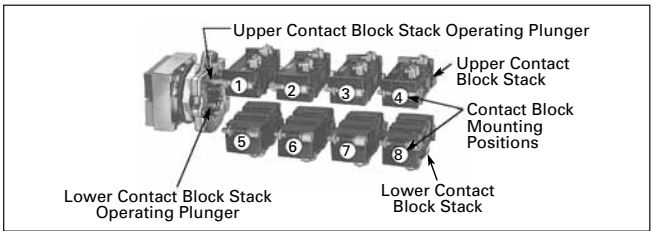

Figure 47-83. Mounting Positions
**Figure 47-83** and **Table 47-161** give the contact block mounting limitations for Type E30 pushbutton and combination pushbutton and light operators. Mounting positions 1 thru 8 indicate single depth contact blocks. Each of these positions can represent either a single circuit 600 volt block or a 2-circuit 120 volt block. The 2-circuit 600 volt block requires two of the numbered positions shown.